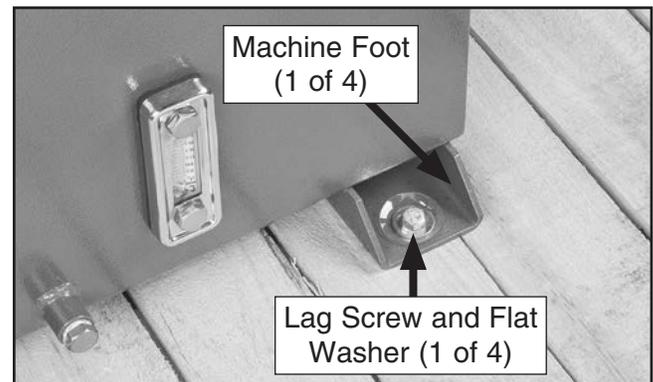

Figure 10. Machine secured to shipping pallet.
3. Remove (4) lag screws and flat washers that secure machine to shipping pallet (see **Figure 10**).